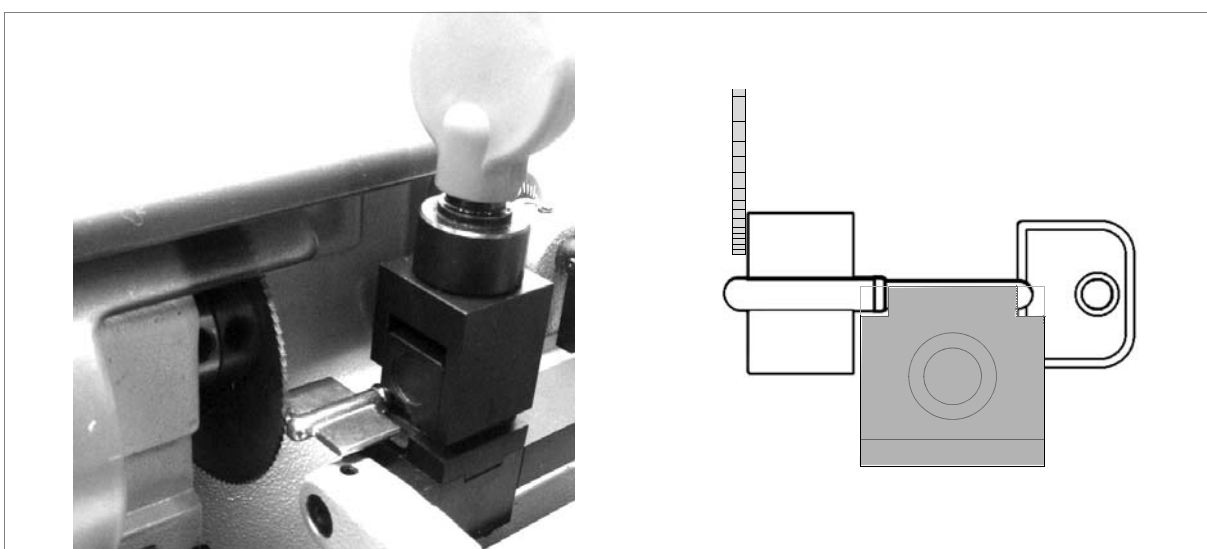

Fig. 48
- 2) Lock the clamps in the horizontal position by means of the pin (L) (chap.7.1.4, page 23).
- 4) Raise the carriage and place the bit against the cutter (fig. 48).
- 7) Raise the carriage with the handle (H) and take the original key into contact with the tracer point to carry out cutting.
- 8) Take the carriage back with the handle (H), go on to the next cutting position and continue from point 7.
- 9) When cutting is finished, turn off the switch (U) and remove the keys.